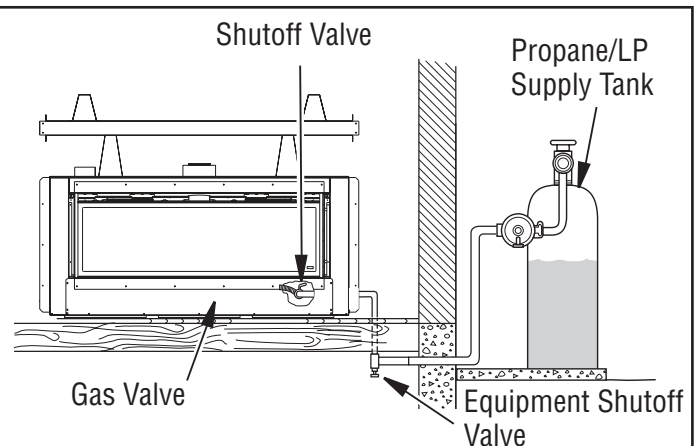
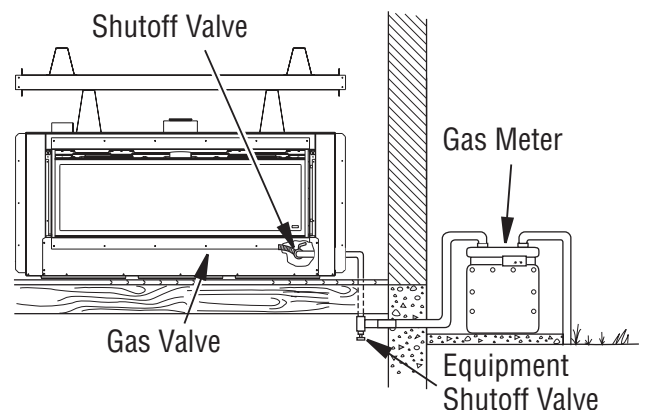

Figure 26 - Checking Gas Joints for Propane/LP Gas Fireplace
Figure 27 - Checking Gas Joints for Natural Gas Fireplace
3. Check all joints from propane/LP supply tank or gas meter to equipment shutoff valve (see **Figures 26 or Figure 27**). Apply noncorrosive leak detection fluid to all joints. Bubbles forming show a leak.
5. Check all joints from equipment shutoff valve to gas valve (see **Figures 26 or Figure 27**). Apply noncorrosive leak detection fluid to all joints. Bubbles forming show a leak. Correct all leaks at once.